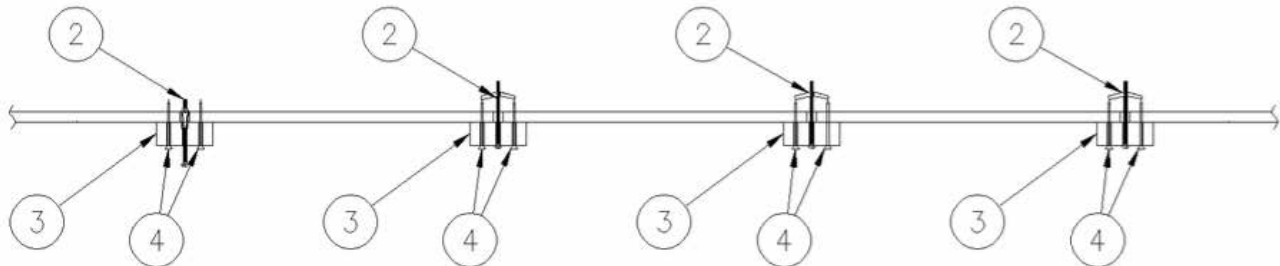

Fig. 9
Step 6A - Screw two 3" flat head fasteners in the pre-drilled holes on the top corners of the wood mounting block or into each area of the 2x4 or 2x6. Insert toggle bolt into the middle pre-drilled hole of the mounting block or 2x4 or 2x6 and securely attach the wood mounting block or 2x4 or 2x6 to the wall. Repeat for all mounting blocks. Lightly mark the centerline of each mounting block or centerline where holes have been placed along the 2x4 or 2x6 (top and bottom) on the wall to align where fasteners (1-1/2" trim screws, Fig. 9) will attach Beam Mantel to mounting blocks or 2x4 or 2x6.